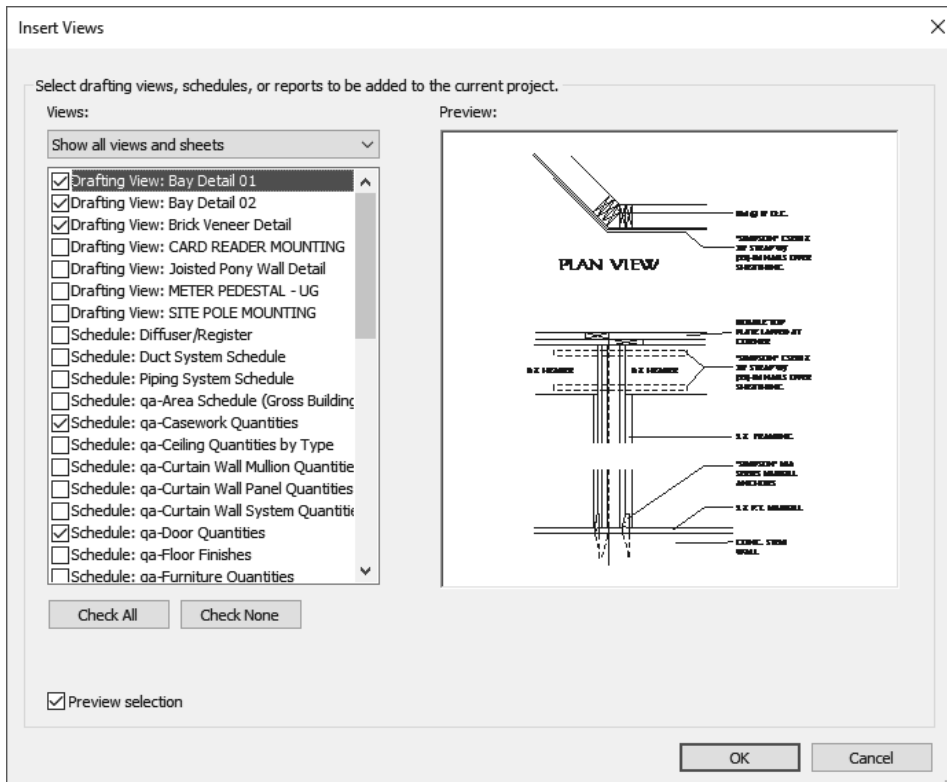

Figure 1–32
5. Select one or two drafting views and one or two schedules from the list, as shown in Figure 1–32.